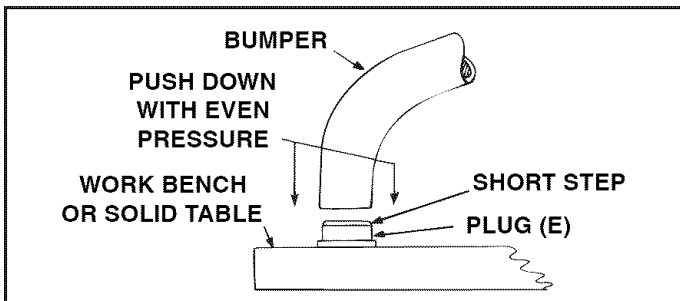

FIGURE 4
**STEP 3: (SEE FIGURE 4)**
- Place plug (E) on a work bench or solid table and push end of bumper down onto plug. Repeat for second plug.